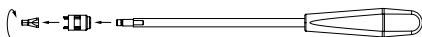

Fig. 1
- Dismantle the set screw starter with an SW6 open-ended spanner, see Fig. 1.